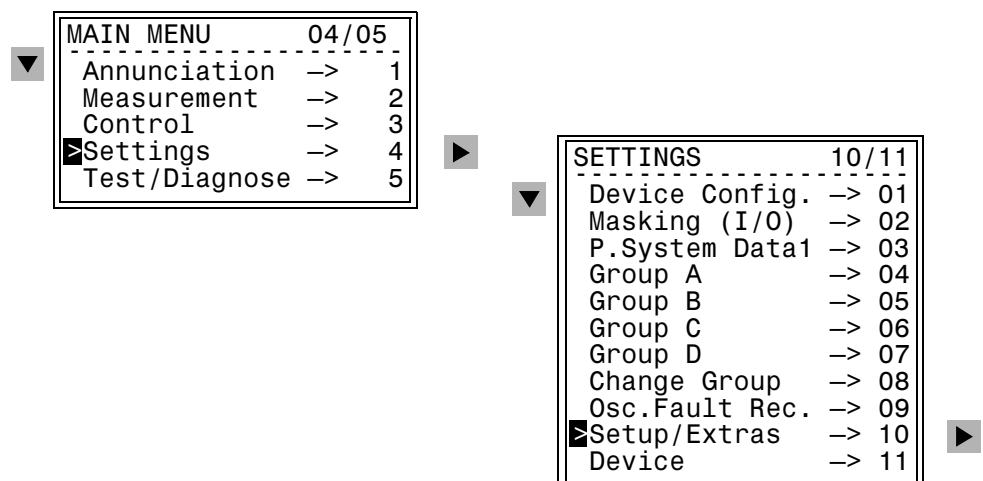

Figure 3-1 Main menu and sub-menu **SETTINGS**
- ❑ Using the ▼ key, select the menu item **Settings**, and move to the device settings using the ▶ key. The **SETTINGS** menu appears, as shown in Figure 3-1.